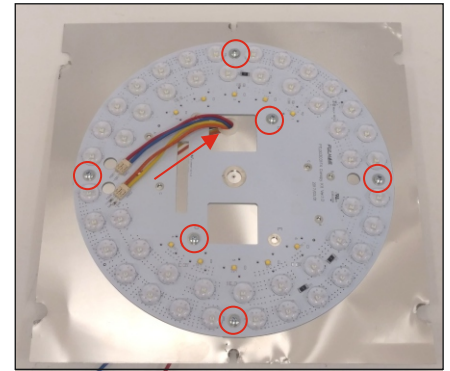

Figure 8
3. Pass the LED Module input/NTC wires through the grommet of the original luminaire plate. See figure 8.
4. Place the LED Module onto the original luminaire plate and center it as shown in figure 8.
5. Secure LED Module to the original luminaire plate using the 6-20 x 3/8" Self Drilling Screws (B). See figure 8.